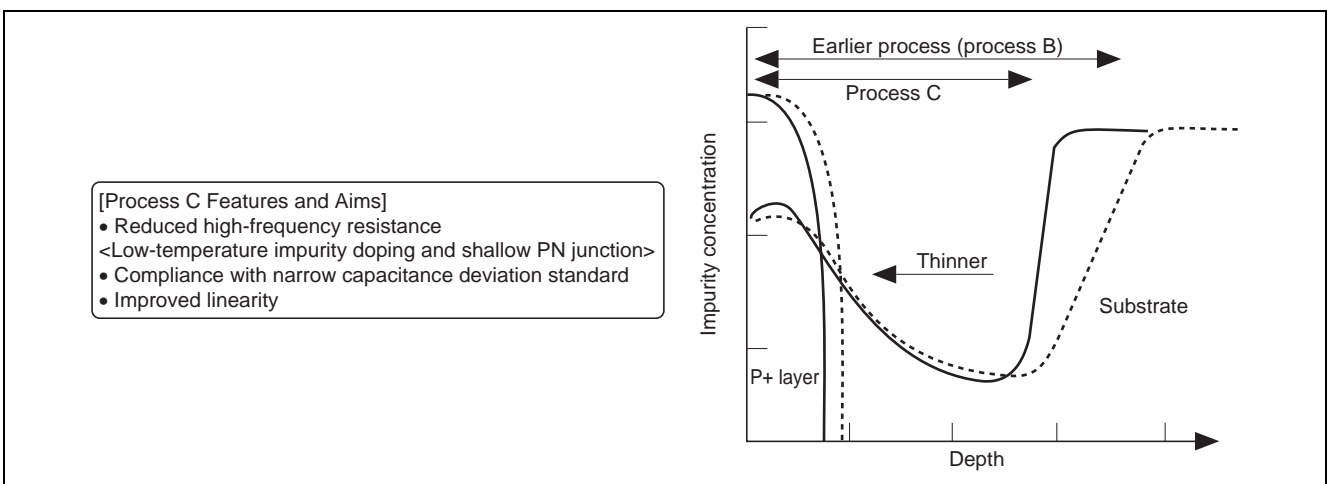

Figure 1.3 Process C Features and Impurity Profile Comparison
Renesas has superseded the earlier process for fabricating variable capacitance diodes (process B) with process C, which yields more optimal results. In particular, process C provides uniform voltage-capacitance (CV) characteristics and a large capacitance variation ratio, allowing for an expanded range of reception frequencies. Additional advantages include low series resistance and a superior performance index (figure 1.3).